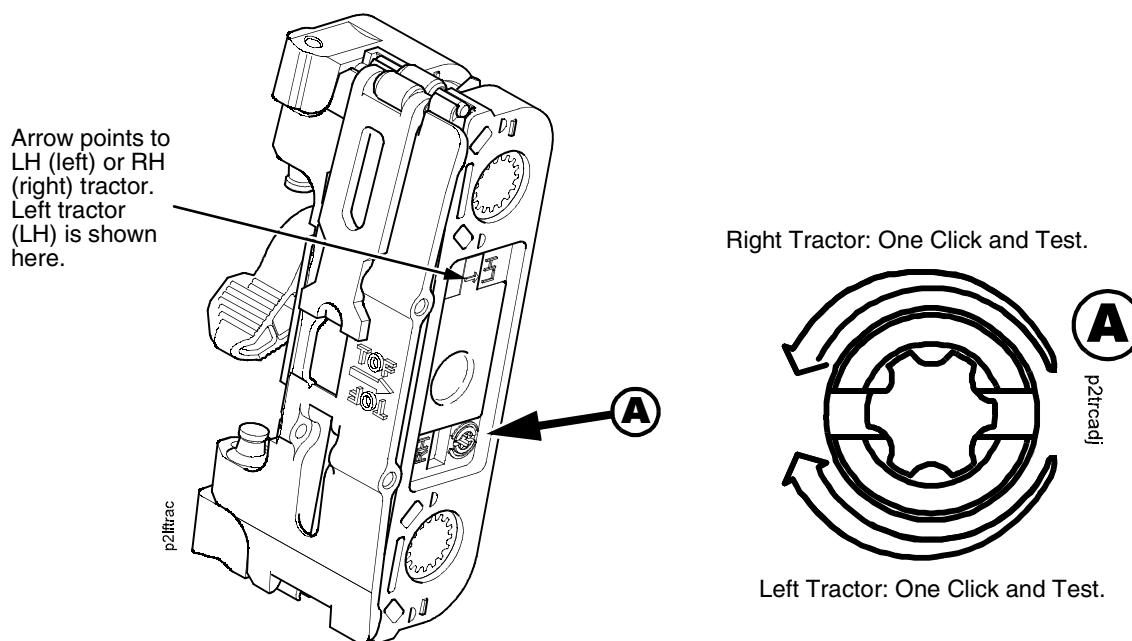

Figure 20. Tractor Belt Tension Adjustment
3. Carefully note the initial position of the adjustment screws. (Figure 20.)
4. On the inner side of the left tractor, use a Torx T-10 driver to rotate the adjustment screw one detent to increase tension. On the inner side of the right tractor, use a Torx T-10 driver to rotate the adjustment screw one detent to increase tension. (See Figure 20.)